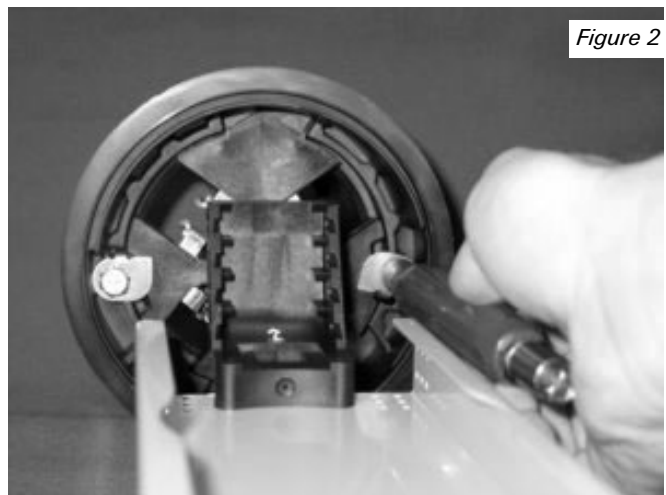

Figure 2
4. Loosen and turn the two metal latches clockwise and remove the base from the frame. (Fig. 2)